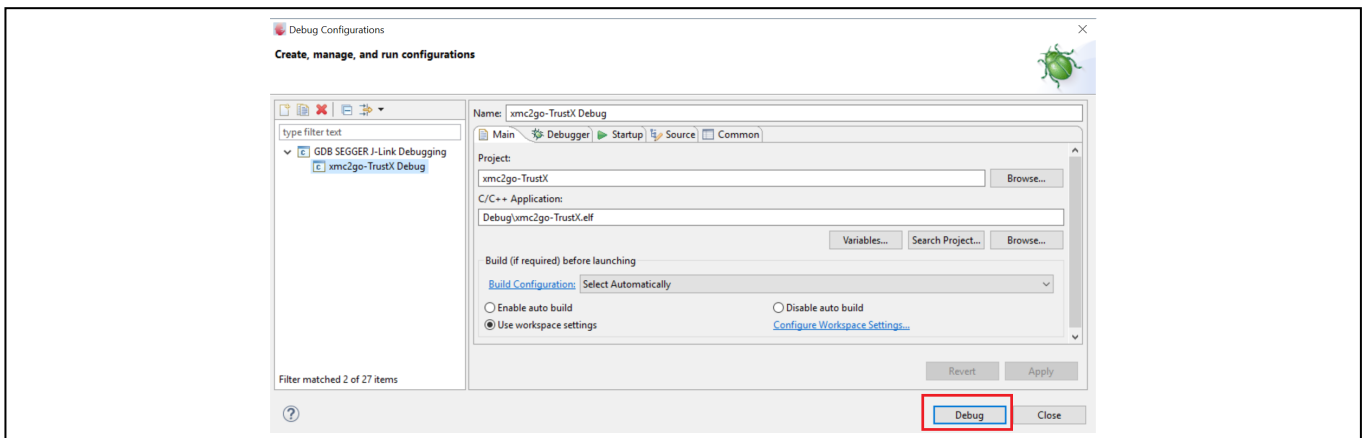

Figure 14 Initializing Debug Session
- Press Debug to initialize debug session as shown in Figure 14.